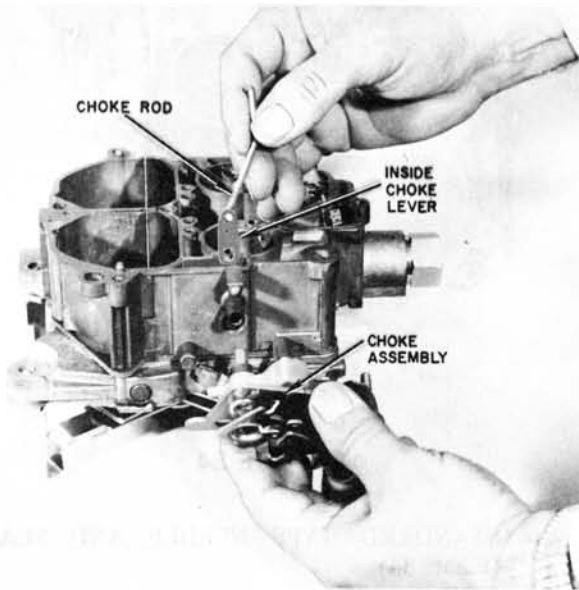

FIGURE 35
A. 4MV MODELS – (Figure 35)
(Figure 35)